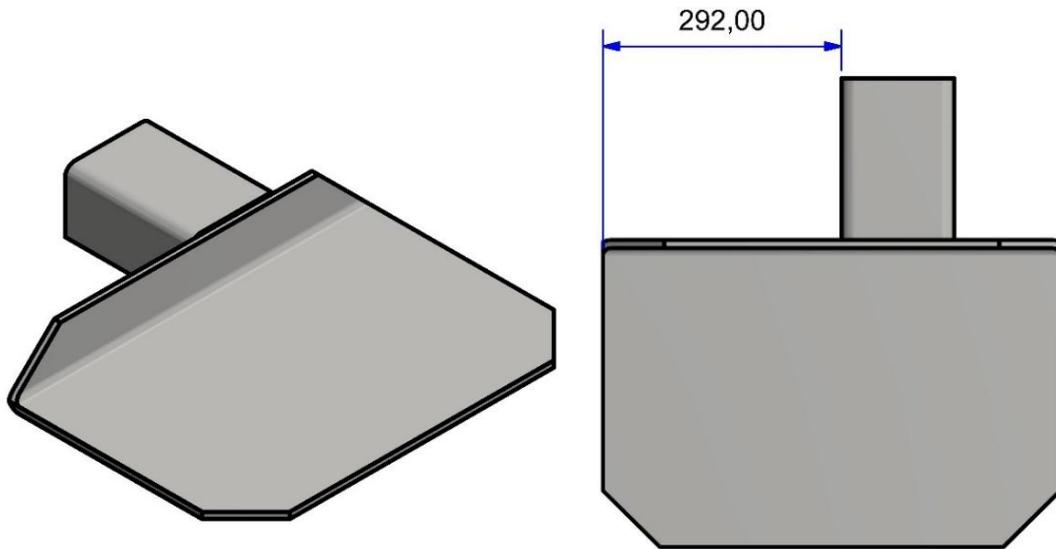

*Figure 5 (Assembly 1 – Standard Wheel Rest Plate and Outer Sleeve)*
2. Weld the strengthener plate (Item 7) to the wheel rest box (Item 8) as shown in Figures 5 and 6, or Figures 7 and 8 if the extended wheel rest has been selected